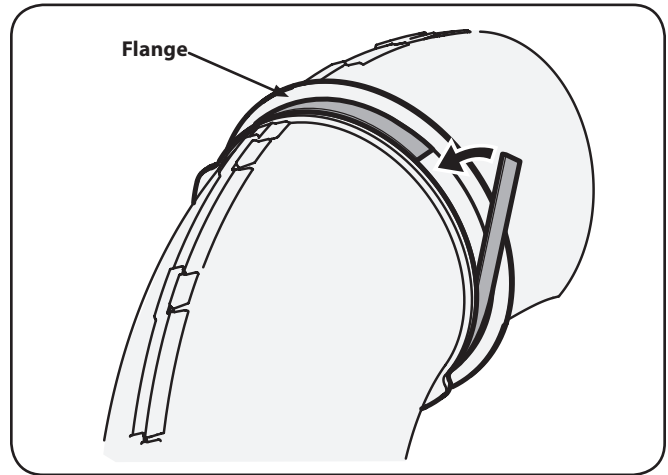

Figure 4-26
14. Peel the backing off of the self-adhesive foam strip (721-04388) that has been included with your grass collector. Apply it to the upper chute, flush against the flange as shown in Figure 4-26.